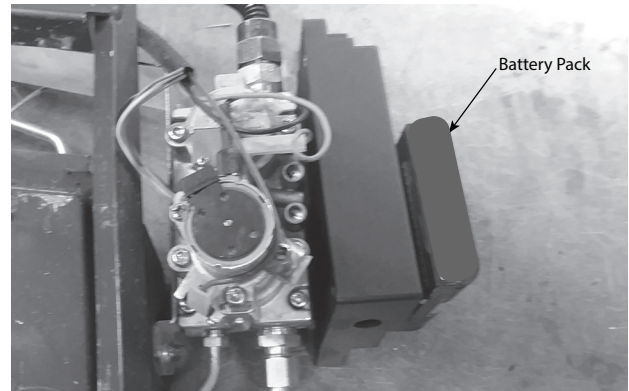

Figure 5.3 Battery Pack Location
- Install 4 AA cell batteries into the battery pack before use. See Figure 5.3